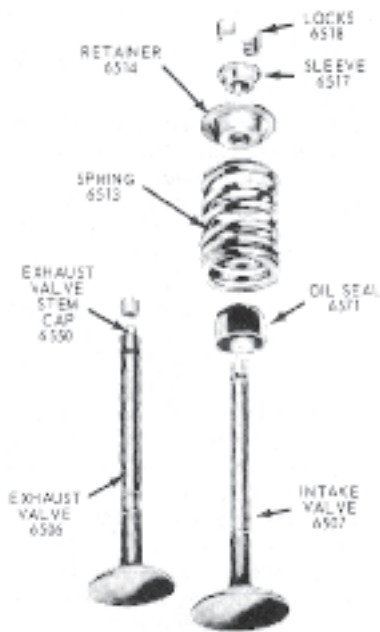

Fig. 44 Valve Assembly-302-2V and 351-W engines
1. Install each valve (Fig. 44) in the port from which it was removed or to which it was fitted.
2. Install the valve stem seal and valve spring over the valve and then install the spring retainer. Compress the spring and install the sleeve, if so equipped, and retainer locks (Fig. 44).